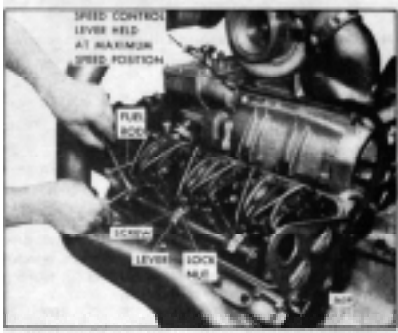

Fig. 2. - Positioning No. 1 Injector Rack Control Lever (One Screw and Lock Nut Assembly)
6. Move the speed control lever to the maximum speed position and hold it in that position with light finger pressure (Fig. 2). Tighten the adjusting screw of the No. 1 L injector rack control lever until the injector rack clevis is observed to roll up or an increase in effort to turn the screwdriver is noted. Tighten the screw approximately 1/8 of a turn more and lock securely with the adjusting screw locknut. This will place the No. 1L injector rack in the full-fuel position.